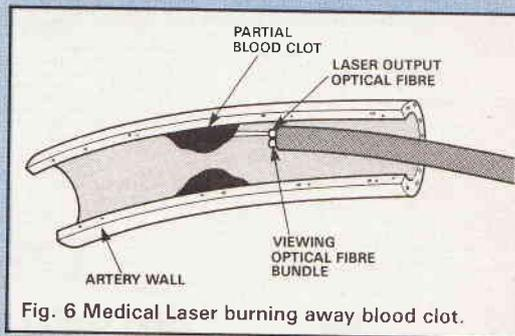

Fig. 6 Medical Laser burning away blood clot.
10.6µm cannot be carried on conventional fibre-optics as it tends to melt both plastic and glass. So a system of mirrors is used in some form of arm which tends to be a little cumbersome. YAG lasers may use conventional fibre optics and may be used for intra-artery work (see Figure 6) and for removing blood clots etc.